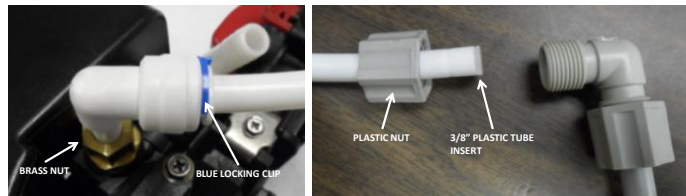

Figure 7. Brine Line Connections View
6. Connect the brine line from the valve to the air check / safety elbow as per figure 7. Double check to make sure all connections are assembled correctly and the brass and plastic nuts are tight and secure to prevent leaks.